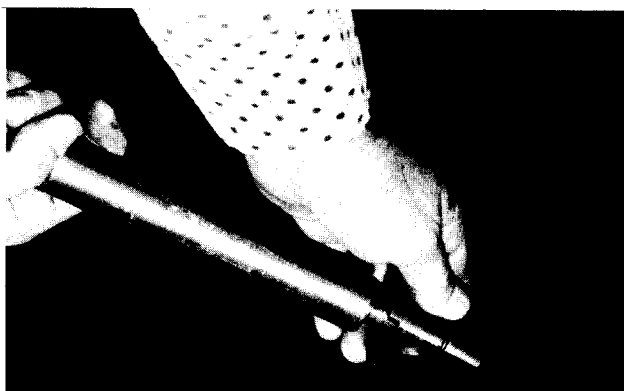
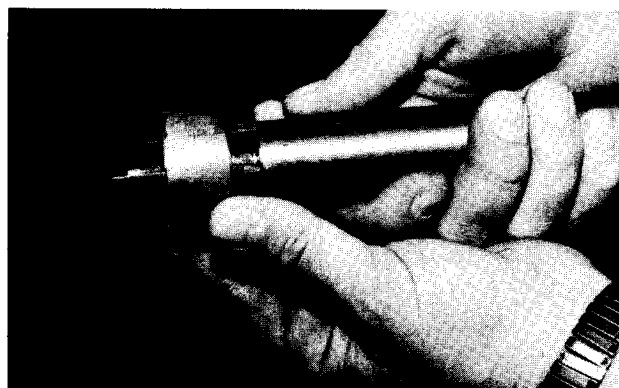

FIGURE 2
FIGURE 3
2. Anchor the control arm securely in a vice. Install remover J-26222-2 on drive handle J-26221-3. (FIGURE 2) The lip of the remover will catch on the inner edge of the bushings. (FIGURE 3)